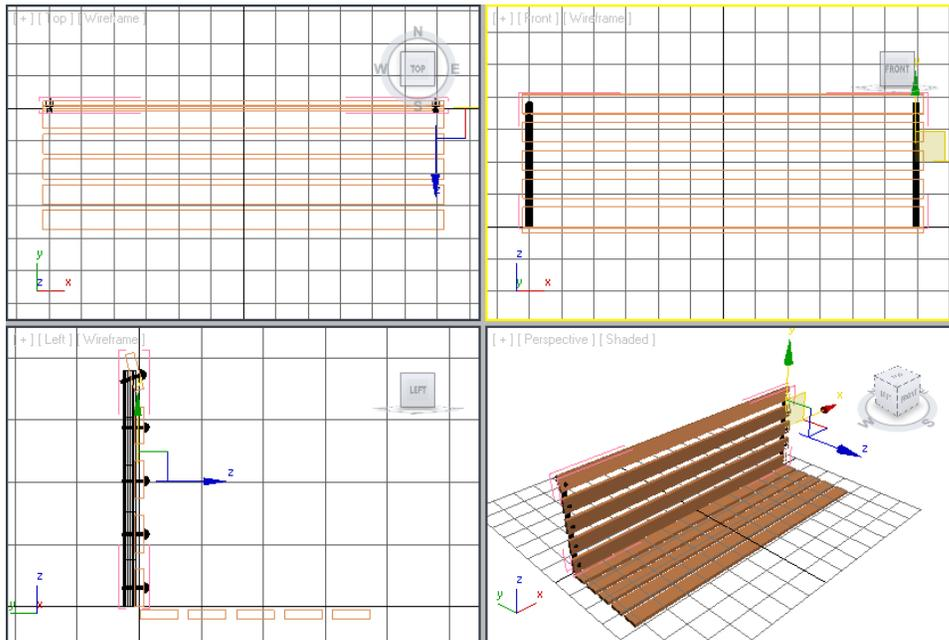

Figure 2-73 The right side rivets group displayed in viewports
- In the **Clone Options** dialog box, make sure the **Copy** radio button is selected. In the **Name** text box, enter **right side rivets** to modify the name of the group and choose **OK**; *right side rivets* group is displayed, as shown in Figure 2-73.